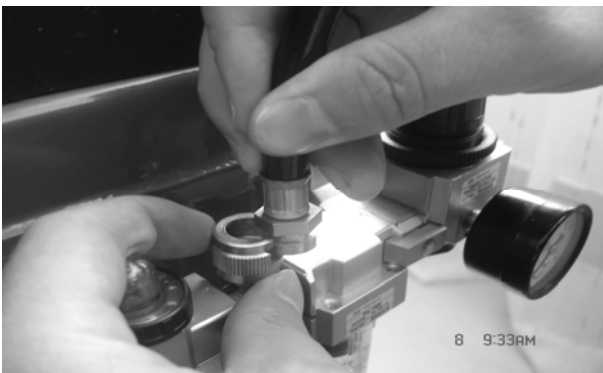

FIG 15
STEP 9: Connect the inflation gun. Inlay the adapter of the inflation gun into the groove (Fig 15) on the open nut on the air source fitting. Tighten the open nut and then connect the air source.